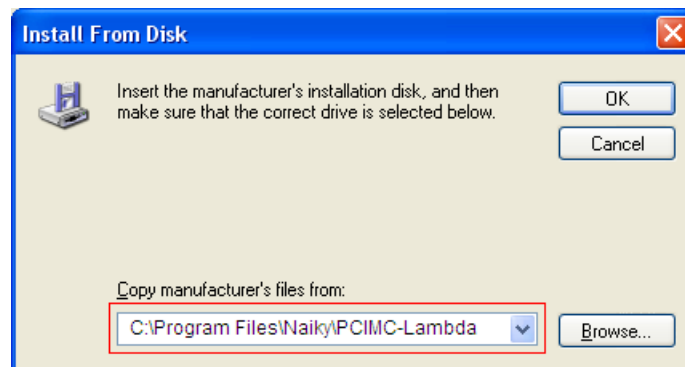

Fig. 1-13 Target file directory confirmation
- 7) After hardware driver being correctly chosen, it jumps to the previous dialog box where the target file directory will be displayed under item “Copy manufacturer’s files from:” as shown in Fig. 1-13.